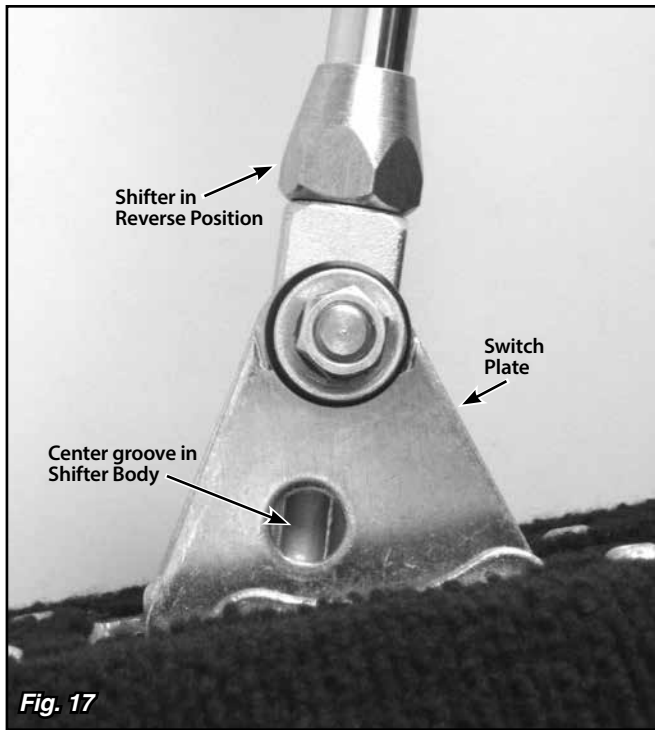
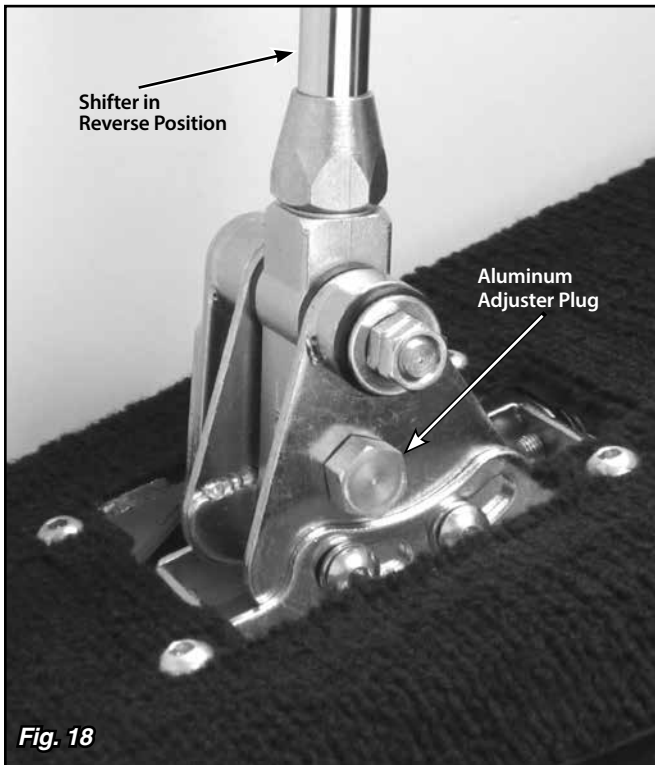

Fig. 17
Fig. 18
Step 24: Put the shifter into the Reverse position. Reposition the switch plate so that the hole in the switch plate lines up with the center groove in the shifter body. **Fig. 17** Screw the provided aluminum adjuster plug into the neutral safety switch opening. Wiggling the switch plate slightly forward and back while you are screwing the aluminum adjuster plug in will help get the shifter body centered on the adjuster plug. **Fig. 18**
- **If there are (2) connections for a neutral safety switch**, run a #12 (or heavier) stranded wire from these terminals in your fuse panel to the (2) terminals on the neutral safety switch. That completes the Neutral Safety Switch wiring.